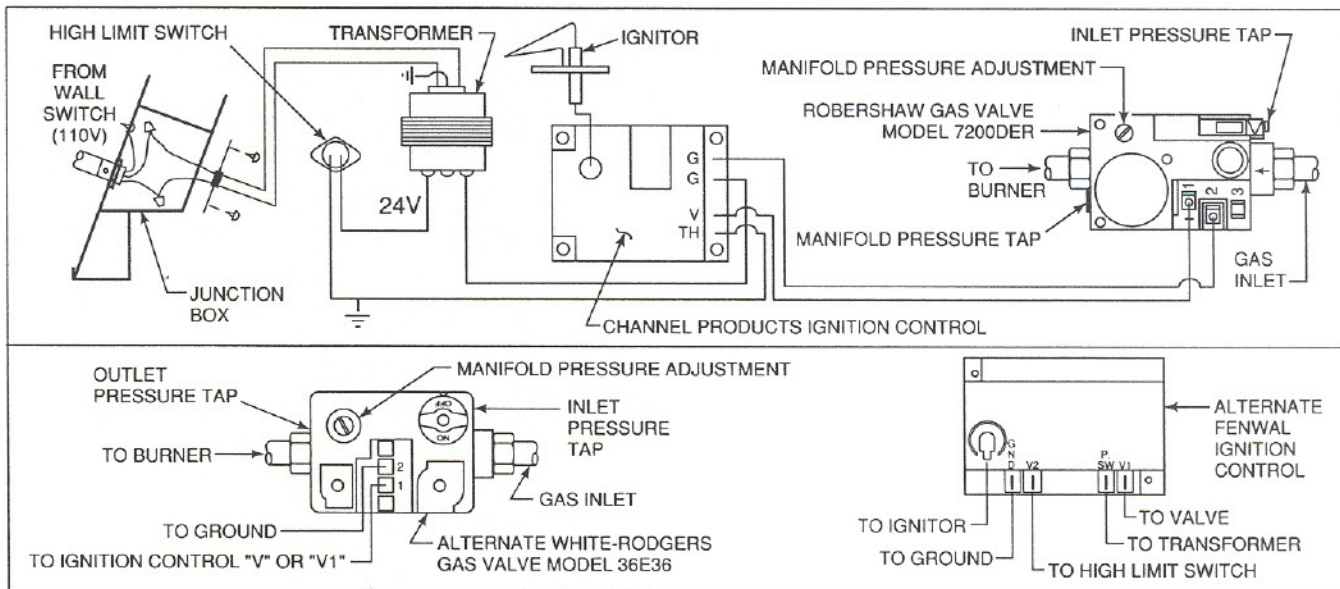

Figure 5
If an optional FK13 Fan Kit or RC5 Remote Control Kit are to be used, wiring should be done at this time. Wiring diagrams are shown in Figure 3 and are also provided with these accessories. Supply electrical wiring (110V) to the left side of the appliance. Connect the wall switch in line to operate the appliance. The appliance must be electrically wired and grounded in accordance with local codes or, in the absence of local codes, with National Electric Code ANSI/NFPA 70-latest edition or, in Canada, the current CSA C22.1 Canadian Electrical Code. The appliance wiring diagram is shown in Figure 5.
B. No ground.	Check that wiring is grounded as shown in Figure 5.